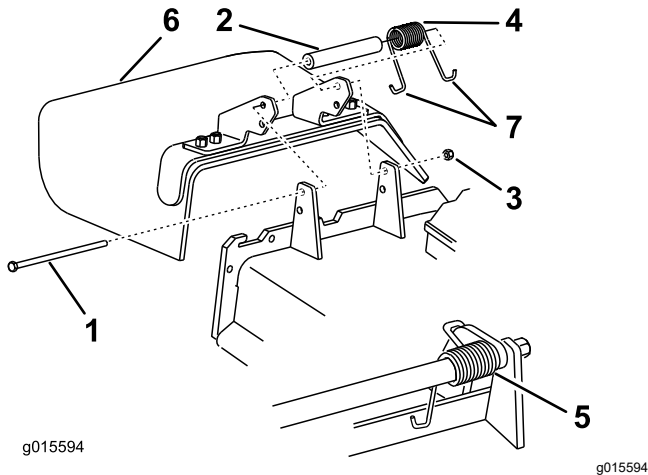

Figure 106
1. Remove the locknut, bolt, spring, and spacer holding the deflector to the pivot brackets (Figure 106).
2. Remove the damaged or worn grass deflector (Figure 106).
**Note:** Make sure that 1 J-hook end of the spring is installed behind the deck edge before installing the bolt as shown in Figure 106.
6. Place 1 J-hook end of the spring around the grass deflector (Figure 106).